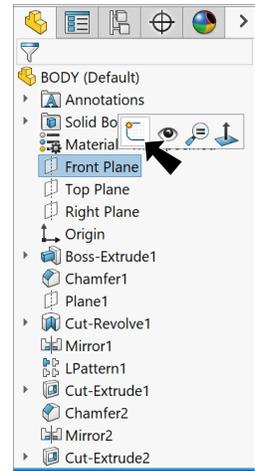

Fig. 44
Step 1. Click **Front Plane**  in the Feature Manager and click **Sketch** on the context toolbar, **Fig. 44**.